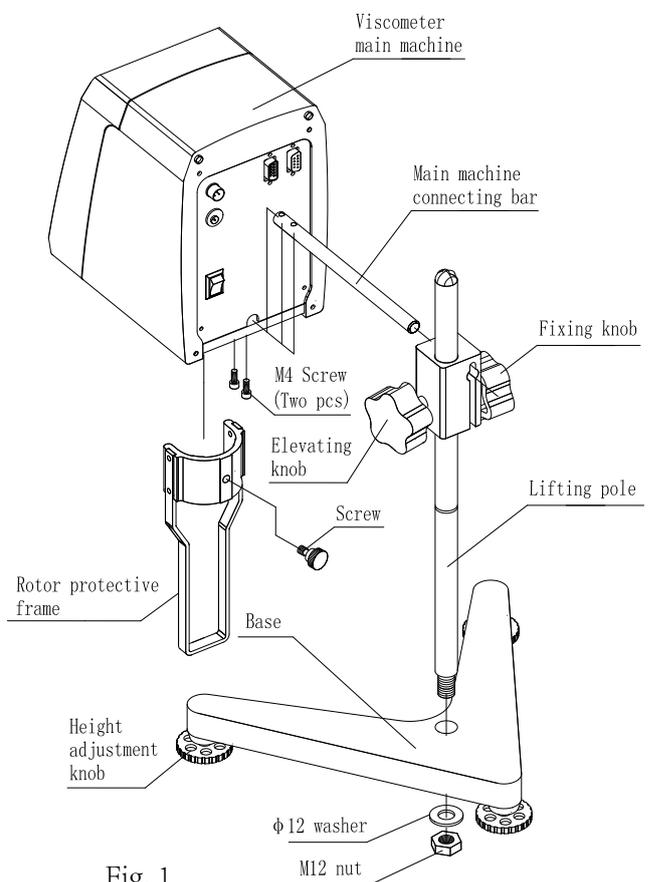

Fig. 1
(1)Take out the base, lifting pole, viscometer main machine, main machine connecting bar, and power supply adapter, etc. As shown in Fig. 1, insert the lifting pole into the base hole and tighten by the nut (**notice: the lifting knob is at the right**), remove the screw from the main machine connecting bar, insert it into the installing hole at the back and bottom of the main machine with the milling flat down, and then tightly fix the main machine connecting bar to the base with the removed hexagonal screw. Finally, insert the main machine with the well fixed connecting bar into the installing hole of the elevating slider, and tighten the fixing knob at the calibrated position.